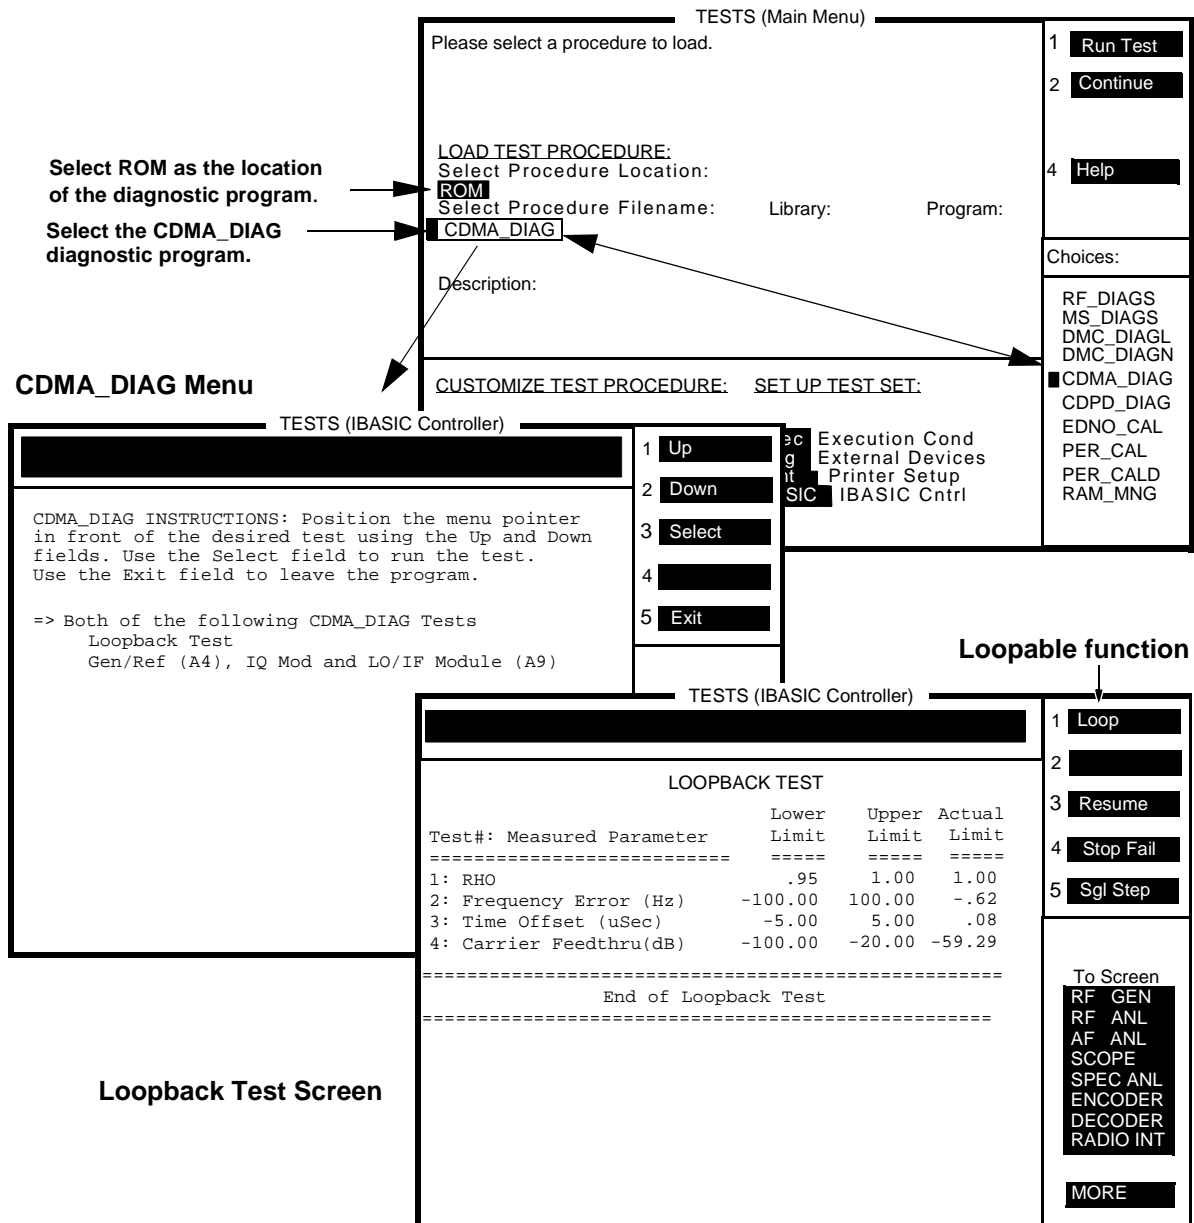

Figure 10 CDMA_DIAG Menu
3. Set the **Select Procedure Location:** field to **ROM**. (See figure 10 on page 53).
5. Press **Run Test** (k1) key. The CDMA_DIAG screen appears, see figure 10 on page 53.
If the diagnostic tests intermittently fail, select the **Loop** (k1) function of the LOOPBACK TEST screen (see figure 10 on page 53) to place the Test System in a continuous test loop mode, then manually troubleshoot the Test System for loose connections.